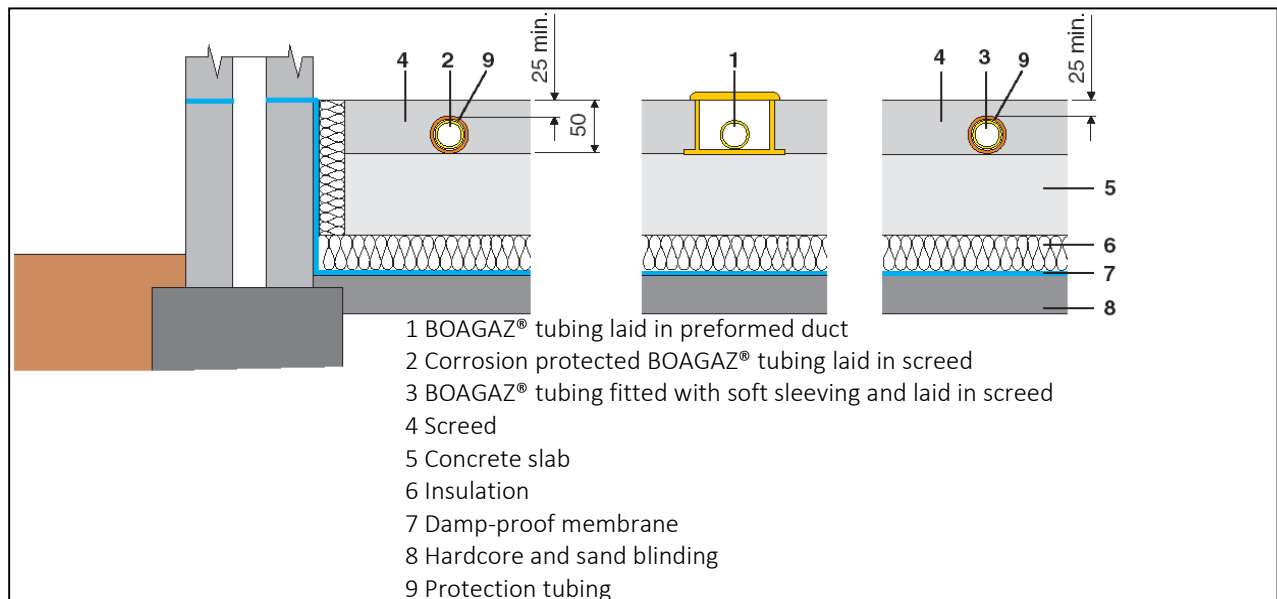

Figure 10: Ground bearing concrete floors
- ground bearing concrete floors (Figure 10)
BOAGAZ® tubing laid in concrete floors shall be protected against failure caused by movement. BOAGAZ® tubing buried in concrete floors shall be suitably sleeved and protected against failure by (seismic) movement and settlement. Protection against failure can be afforded by laying BOAGAZ® tubing (sleeved) on top of base concrete and subsequently covering it with screed (see Figure 10) to a minimum depth of 25mm.